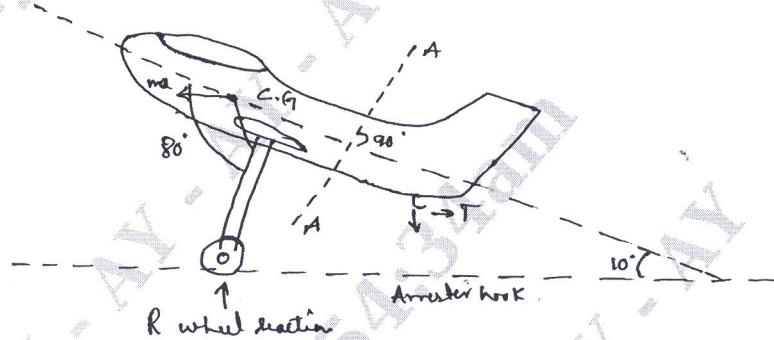

Fig.Q1(c) : Force of an a/c
- c. An aircraft having total load 45 kN lands on the deck of an a/c carrier and is brought to rest by means of cable engaged by arrester hook, as shown in Fig.Q1(c). If the deceleration induced by the cable '3g' determine the tension 'T' in the cable, the load on an undercarriage strut and the shear and axial loads in the fuselage at a section AA, the weight of an a/c aft of AA is 4.5 kN. Calculate also length of the deck covered by the a/c before it is brought to rest, if the touch down speed is 25 m/s. (10 Marks)